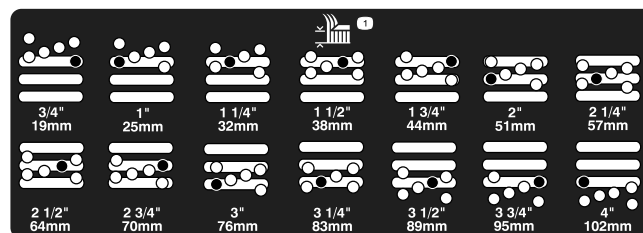

Figure 19
4. While supporting the chamber, remove the spacer (Figure 19).
5. Move the chamber to the desired height of cut and install the spacer into the designated height-of-cut hole and slot (Figure 19).